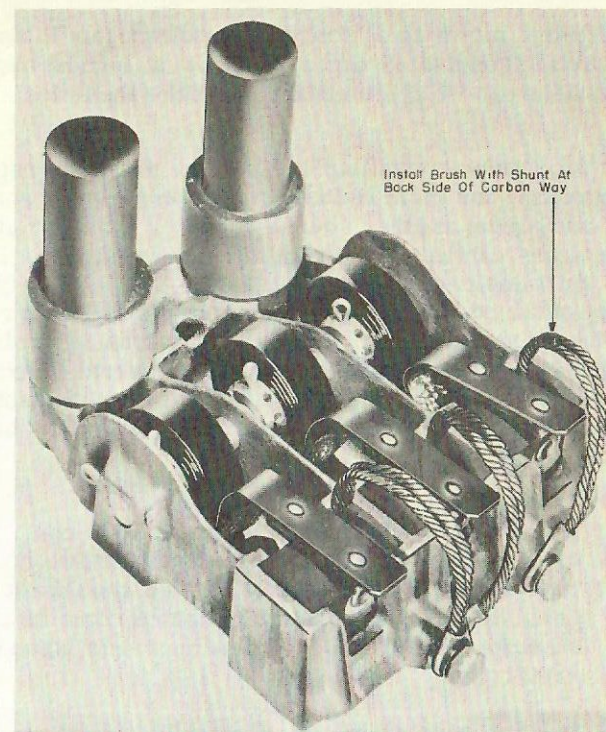

Fig. 31-10
20. Install a good set of brushes. Use grade recommended by General Electric Company; all brushes in machine should be of same grade. See Fig. 31-10 for correct method of installing brushes.